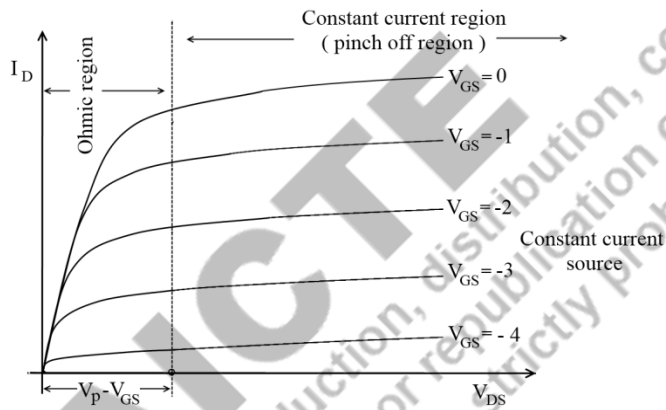

Fig. 2.21: Output Characteristics
**Pinch-off voltage:** The negative gate to source voltage at which the depletion region is completely formed across the channel and hence drain current  $I_D$  reduces to zero, is called pinch-off voltage. Fig. 2.21 shows the output characteristics of a JFET.